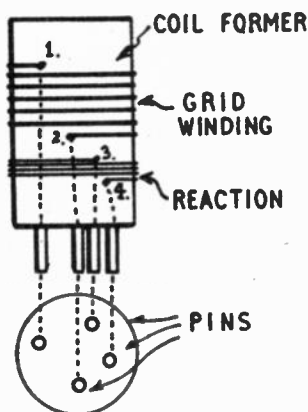
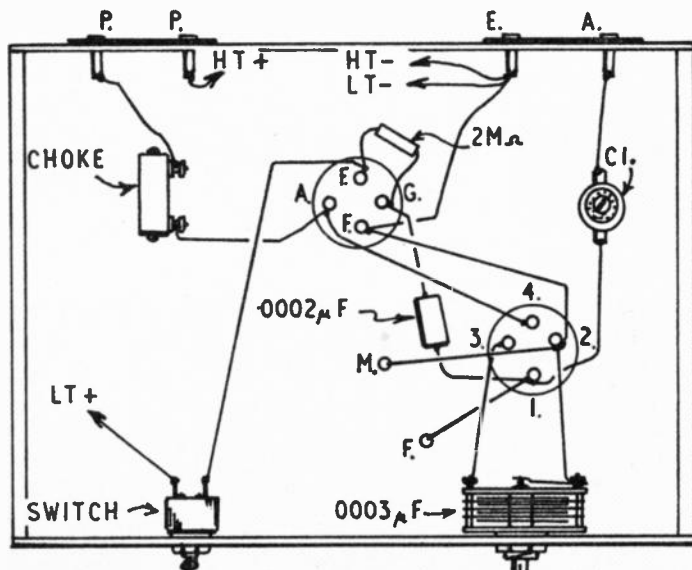

Fig. 2—Tuning coils
Fig. 4—Wiring plan from underneath chassis
It is necessary to wire pins and holder correctly, so that the windings function as required. In Fig. 2, the pins are shown as seen when looking at the bottom of the coil, this agreeing with the wiring plan in Fig. 4.
All connections will be clear from Fig. 4, and some of the 18 S.W.G. wire will do well, with flex for battery leads. Wiring between coil holder, variable condensers and valve should not be unnecessarily long. (1) on the coil holder goes to fixed plates of tuning condenser, and .0002 μ F condenser. (2) goes to earth. (3) is wired to the fixed plates tag of the reaction condenser. (4) goes to valve anode.